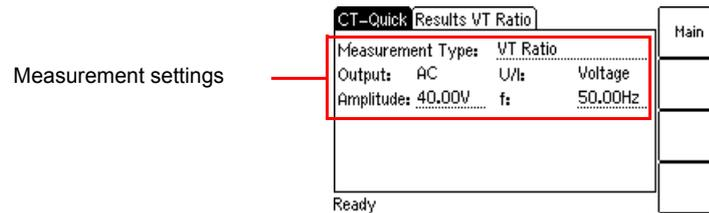

Figure 9-10 **CT-Quick** test card with settings for VT ratio measurement
- Select the **VT Ratio** measurement type. Set the amplitude to the maximum output voltage of 40V and the frequency to the mains frequency. Refer to Figure 9-10.